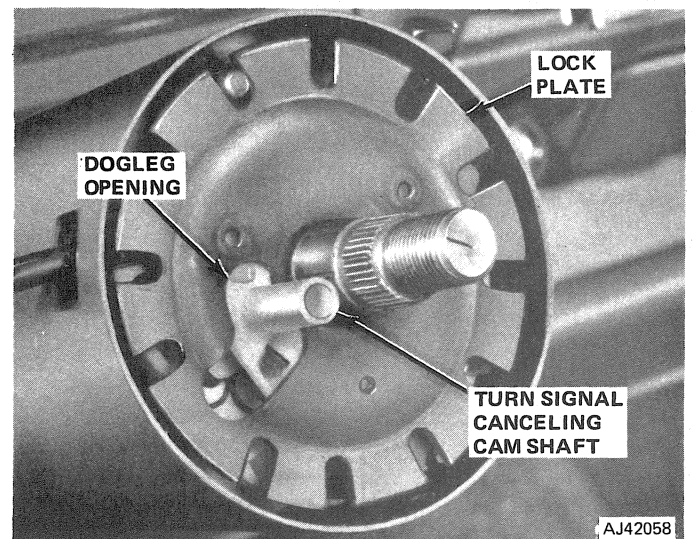

Fig. 2J-34 Canceling Cam and Lock Plate Position
(16) Guide shift quadrant lamp wire and remote lock rod into position between shift bowl and column jacket.
(17) Install turn signal switch and harness assembly in column.
(18) Remove tape from turn signal switch wire harness connector and position harness in protector and protector-to-column jacket.
(19) Install turn signal switch retaining screws. Be sure switch actuating lever pivot is correctly aligned and seated in upper housing pivot boss before installing screws.
(20) On vehicles without Cruise Command, install turn signal lever and lever attaching screw. Tighten screw to 35 inch-pounds (4 N•m) torque.
(21) On vehicles with Cruise Command, install turn signal lever and switch assembly. Guide wires into housing using string previously taped in place. Remove string and tape. Connect wires to switch terminals. Install lever attaching screw and tighten screw to 35 inch-pounds (4 N•m) torque.
(22) Install steering shaft if removed. Install shaft through lower end of column and into upper bearing.
(23) Install thrust washer, upper bearing preload spring, and canceling cam on upper end of steering shaft.
(24) Align lock plate splines with steering shaft splines and install lock plate. Be sure canceling cam shaft protrudes through opening in lock plate (fig. 2J-34).
(25) Install replacement steering shaft snap ring on sleeve of Lock Plate Compressor Tool J-23653 and install tool on steering shaft (fig. 2J-25).
CAUTION: *Inspect and identify the steering shaft nut thread type before installing the compressor tool. If the shaft has metric threads (fig. 2J-2), be sure to replace the compressor tool standard forcing screw with Metric Forcing Screw J-23653-4 before installing the tool on the shaft.*